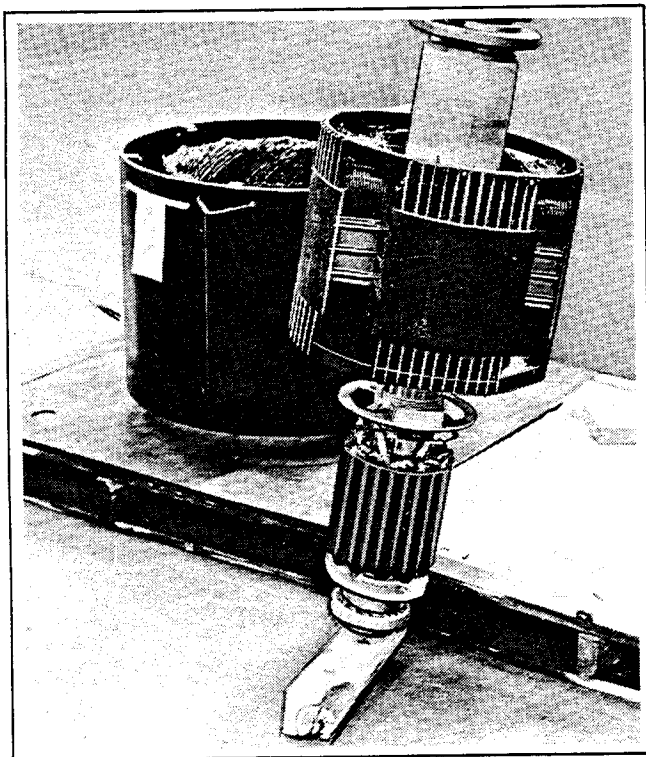

Figure 5-10. Rotor Handling
2. Raise rotor allowing bearing end to rest on wood block as shown in Figure 5-10.